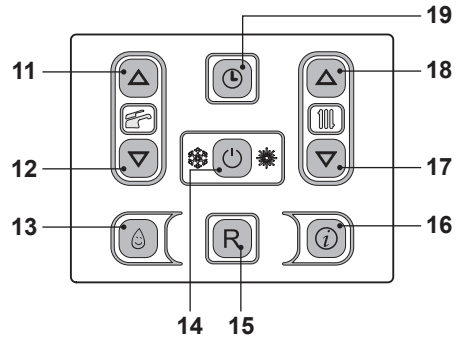
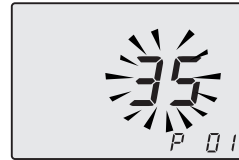

Fig. 7.50
Fig. 7.51
- Enter the "programming mode" by pressing keys 14 - 17 - 18 (Fig. 7.50) for 10 seconds at the same time until the letters **P01** are displayed on the LCD display and the value of the parameter (35=Inovia 25C, 36=Inovia 30C or 37=Inovia 35C), indicating that "parameter 01" (Fig. 7.51) has been activated.
- Press keys 11 or 12 to change the value and confirm the value of the parameter with key 14.
- Press keys 17 or 18 (Fig. 7.50) to exit without changing the value.